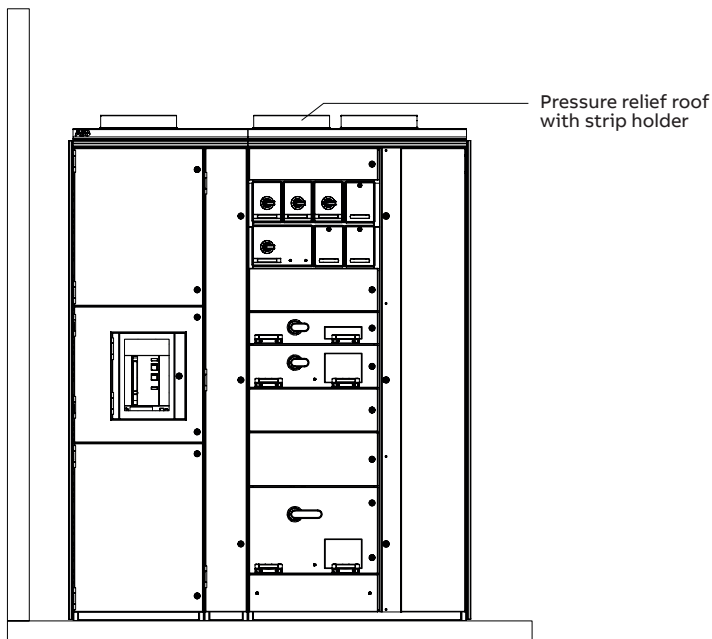

Figure 4-12 Example of section hight extension parts
- top stripe holders, roof plate, main busbar compartment front cover and main busbar rear partition wall (see Figure 4-12) shall be removed,